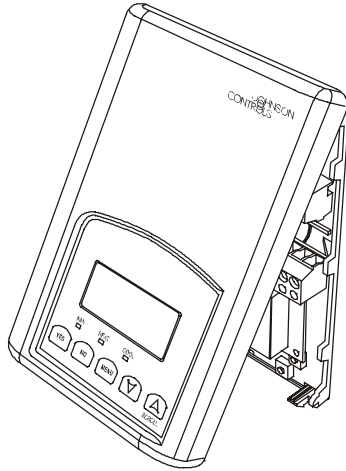

Figure 1: Removing the Thermostat Cover
1. Remove the security screw on the bottom of the thermostat cover using a Phillips-head screwdriver. Open the thermostat by pulling on the bottom side of the thermostat cover (see Figure 1).